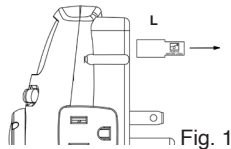

Fig. 1
1. Remove Pull Tab (L) (Fig. 1) from battery holder if present.